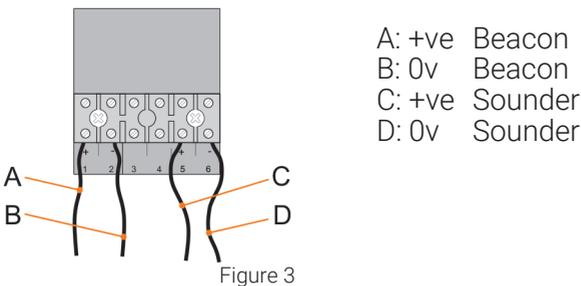

Figure 3
- Connect the leads according to the circuit diagram (Figure 3)